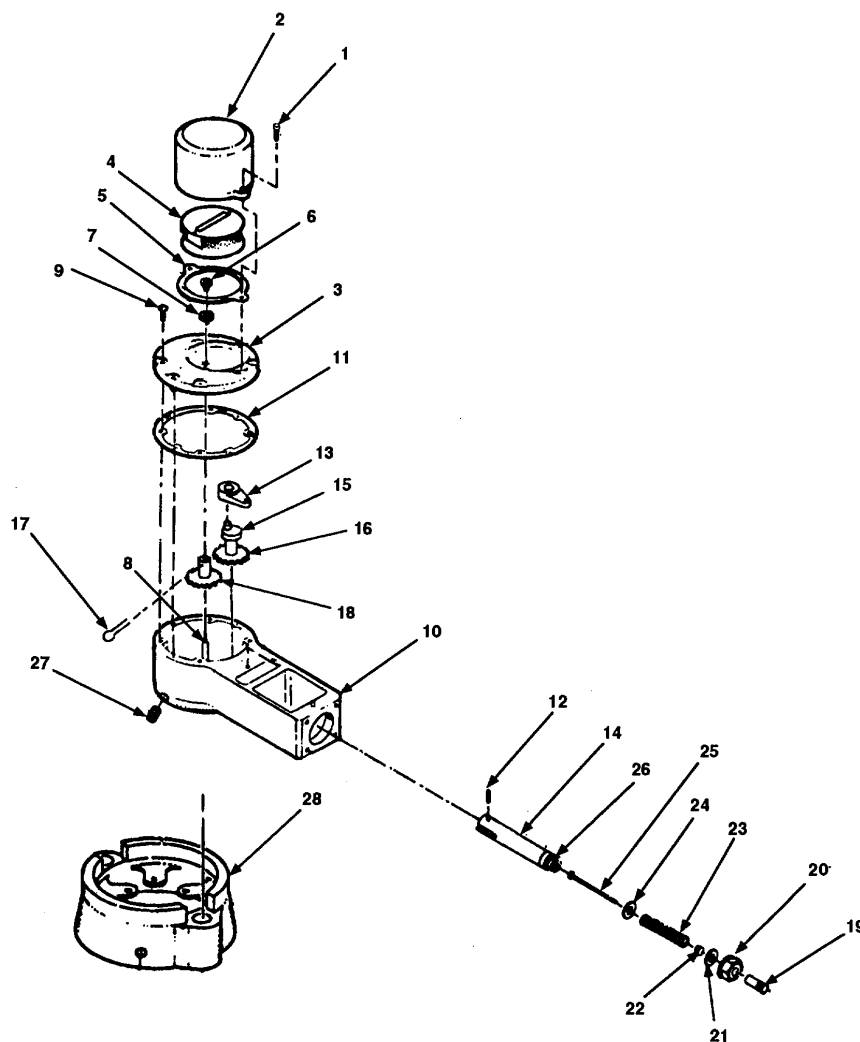

Figure 5-4. Gear Box Maintenance.
- a. Remove two cap screws (Figure 5-4, 1).
- b. Remove valve cap (2) from gear box cover (3).
- c. Remove register mechanism subassembly (4) and gasket (5).
- d. Loosen socket-head screw (6) and remove register gear (7) from main drive shaft (8).
- e. Remove four screws (9).
- f. Gently pry around edge of gear box cover (3) and remove gear box cover (3) from gear box (10).
- g. Remove gasket (11). Discard gasket (11).
- h. Remove crank arm pin (12). Turn crank arm assembly (13) away from spring lock sleeve (14).
- i. Remove crank arm assembly (13) from crank (15).
- j. Remove crank (15) and gear assembly (16).
- k. Remove cotter pin (17). Discard cotter pin (17).